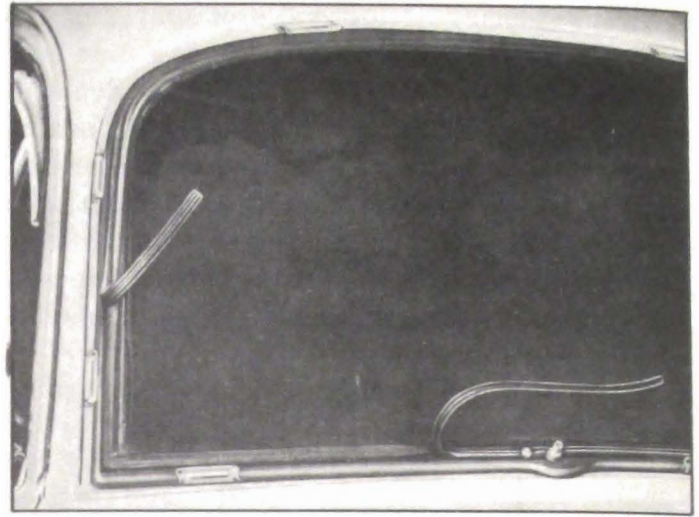

Figure 13-33—Removal of Glass Channel Filler—1949 Series 50-70
7. Locate the ends of the glass channel filler strip, either at lower corner of windshield or adjacent to center division, and pull filler strip out of groove in glass channel. See figure 13-33. This leaves the glass loose in its channel.